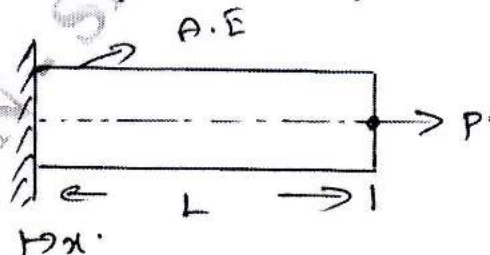

Fig. Q3 (c)
- Use Galerkin method, to find the displacement of the system shown in Fig. Q3 (c). (08 Marks)